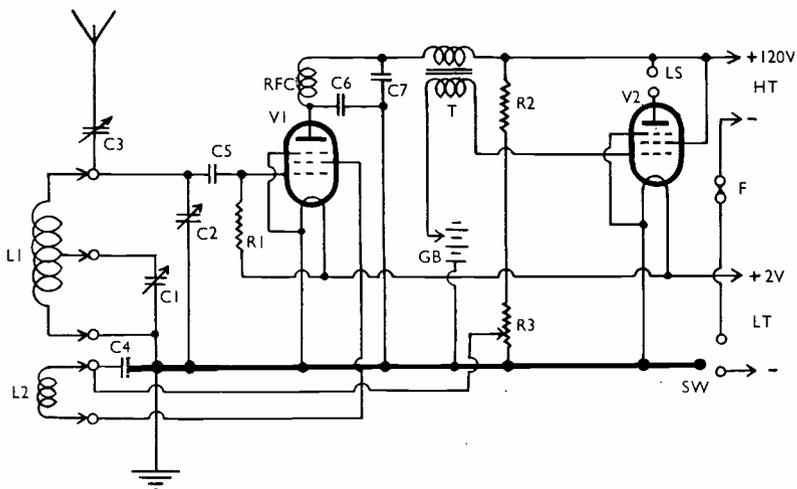
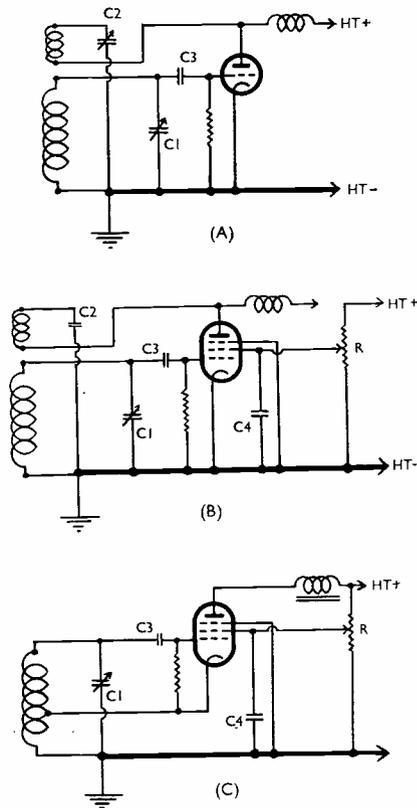

Fig. 3. Circuit of an excellent two-valve battery-operated receiver suitable for operation on wavelengths between 10 and 100 metres (30 and 3 mc).
Fig. 6. Three regenerative detector circuits suitable for use in short-wave receivers of the "straight" type.
Let us now consider one or two "straight" circuits of types which are very suitable for anyone wishing to make a start with short-wave reception. Figs. 3 and 4 refer to two-valve circuits which can be used on fre-
The following component values apply to Figs. 3 and 4: C1, 25 μ F; C2, 100 μ F; C3, 50 μ F; C4, .002 μ F; C5, 100 μ F; C6 and C7, 100 μ F; C8, .25 μ F; C9, .05 μ F; C10, 25 μ F low-voltage electrolytic; R1, 5 megohms; R2, 50,000 ohms; R3, 50,000 ohms; R4, .25 megohms; R5, .5 megohms; R6, 350 ohms; RFC, SWRF choke (to be described); T, 1 : 3 ratio AF transformer; Sw, three-point on-off switch; F, 250 mA fuse; L1 and L2, six-pin plug-in coil (to be described); V1, 210 SPT (battery) or 6J7 (mains); V2, 220 HPT (battery) or 6V6 (mains).
It will be best to start by giving detailed consideration to the circuit in Fig. 3, because the others are based on this. It will be seen that an RF pentode is used as detector, this being followed by a power pentode to give audio-frequency amplification. The circuit of the second valve follows perfectly normal practice and calls for little comment. But the detector circuit will appear novel to those who have not previously concerned themselves with short-wave reception.
While on the subject of reaction or feedback circuits it is of interest to examine other suitable arrangements, of which the three principal ones are shown in Fig. 6. It should be mentioned in passing that band-spread tuning is not indicated in these circuits, in the interests of simplicity; there is, however, no difficulty in making the slight modification necessary to incorporate it. The circuit shown at (A) is conventional, and is similar to that used in broadcast receivers; in fact, the only difference is in respect of component values. At (B) is shown a circuit very similar to that in Fig. 3, but feed-back is from the anode instead of the screening grid. Circuit (C) employs cathode reaction coupling, which is also known as electron coupling; the arrangement is very similar to that used in Fig. 4. Other information regarding these reaction circuits is given in the caption. All are interchangeable, and any of them may be employed in the full circuits given in Figs. 3 and 4.
A separate aerial winding is used on the coil, and this is suitable for the connection of a dipole or doublet aerial. This is an optional feature, and the aerial connection could well be made as shown in Fig. 3 if that were more convenient. In this case the band-spread condenser (C1) is in parallel with the band-set condenser (C2). This is merely a convenience,
Suggestions regarding suitable valve types for Figs. 3 and 4 are given in the caption to Fig. 4, but it will be understood that there are many other types which can be used with equally good results. For example, the 210 SPT valve specified for use in the detector stage of the battery receiver could well be replaced by the VS 24/K, which is an RF tetrode specially designed for short-wave use. Alternatively, the HL 2/K triode could be employed by adopting the reaction circuit shown at (A) in Fig. 6. This also is intended for short-wave use and has a special electrode construction; for that reason it is preferable to many other types. The 6J7 specified for the mains version is a special short-wave valve, but it could well be replaced by a VP4B tetrode or a ZA1 acorn pentode. It is not possible to make specific recommendations at present, when valves of most types are in such short supply; to a large extent, therefore, one must be governed by the availability.